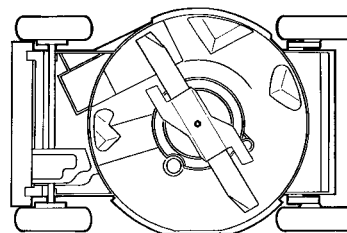

Figure 20
4. Tip the lawn mower on its left side (Fig. 20).